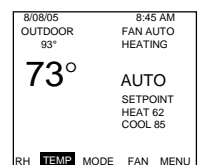

Figure1
4. You are now returned to the Main Menu and Figure 1 is a similar view. NOTE: Outdoor temperature is only displayed if an outdoor sensor is installed.